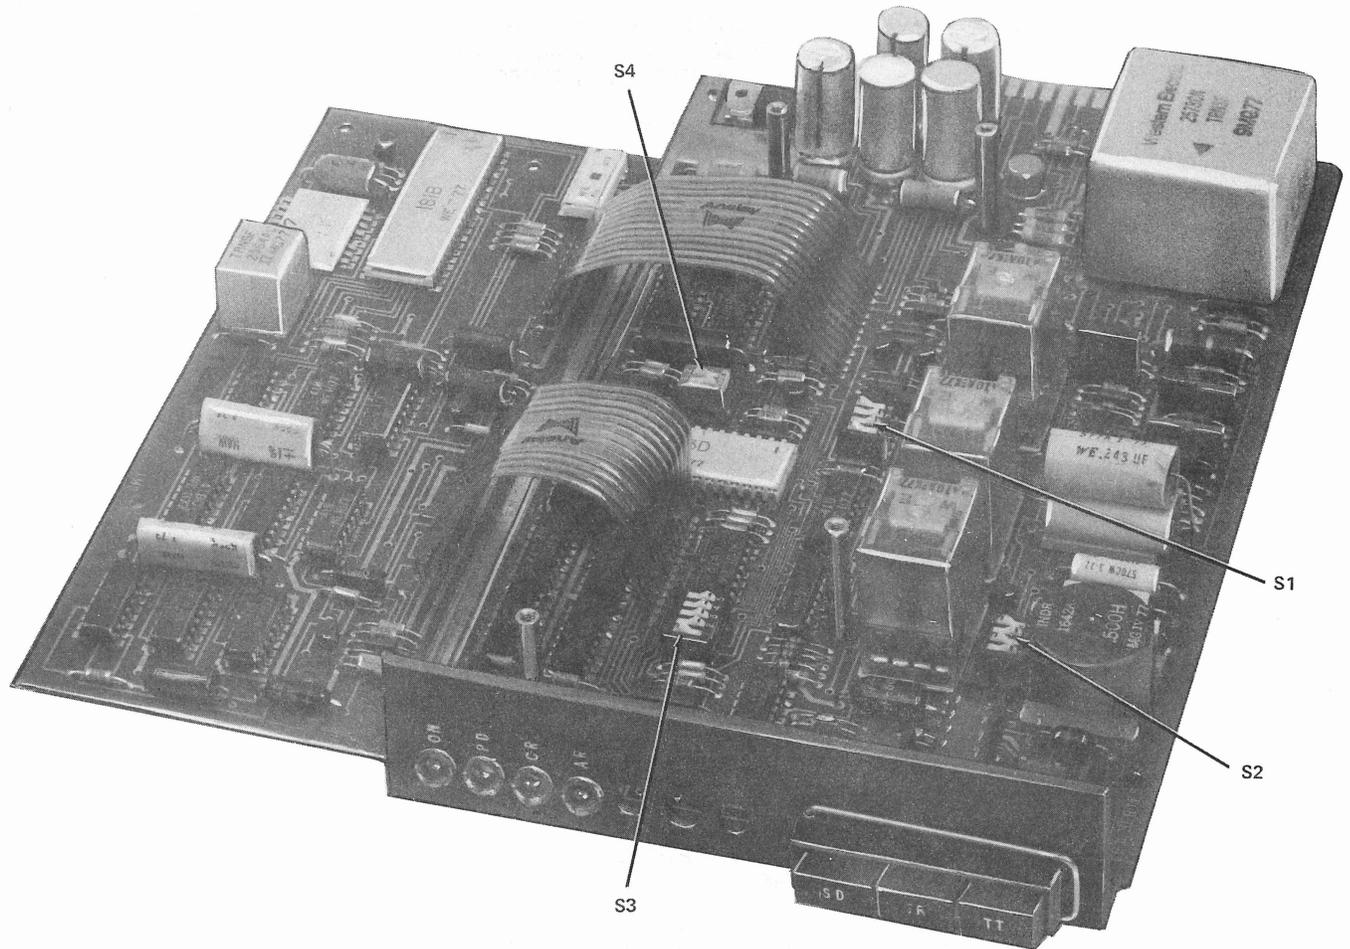

Fig. 1—DAS 801CR-L1 Unfolded for Access to Option Switches
2.02 To access option switches, remove four retaining screws and fold back CM1 circuit module, which will remain attached to circuit pack by two flexible tapes. Figure 1 shows CM1 completely unfolded. After options are installed, fold CM1 into place and install four retaining screws.